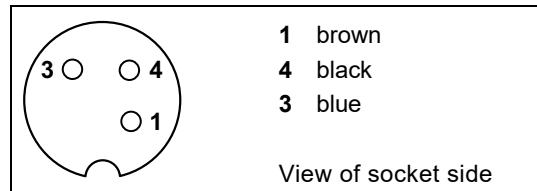
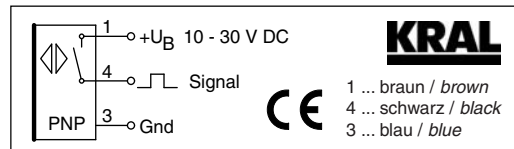

Fig. 26 Pin assignment BEG 56A
Fig. 28 Terminal diagram BEG 56A
6. Connect the pick up cable. Observe the terminal diagram and the pin assignment, see Fig. 28, page 39 and see Fig. 26, page 39.